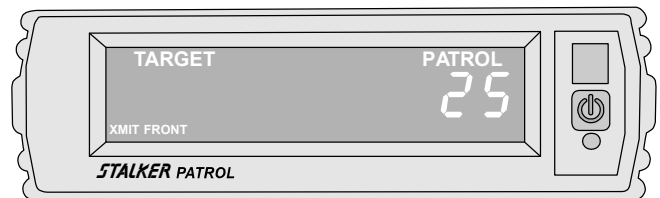
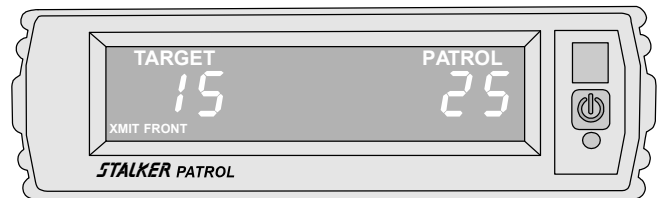

Fig 45
Fig 46
Two (2) tuning forks are supplied for **STALKER PATROL**. The tuning forks are calibrated for 25 mph and 40 mph (40 and 64 kph). To perform the tuning fork test, power the unit ON (press **PWR** switch), select moving mode (press **MOV/STA** key), select the front antenna (press **ANT** key), and place the unit in transmit mode (press **XMIT** key). Strike both tuning forks against a hard nonmetallic surface, such as the heel of a shoe. Quickly hold the lower speed fork approximately two (2) inches in front of the antenna, with the narrow edge of the fork facing the antenna. The patrol window should indicate  $25 \pm 1$  mph (40 kph) (Fig 45). Now move the higher speed fork in front of the antenna with the narrow edge facing the antenna. The target window should register 15 mph  $\pm 2$  (24 kph) (Fig 46), which is the difference in speed of the two forks. Repeat the above test with the rear antenna selected, if installed. *Note: We recommend that the tuning fork test be performed on each antenna. Some departments perform this test both before and after each citation. Check your department policy.*